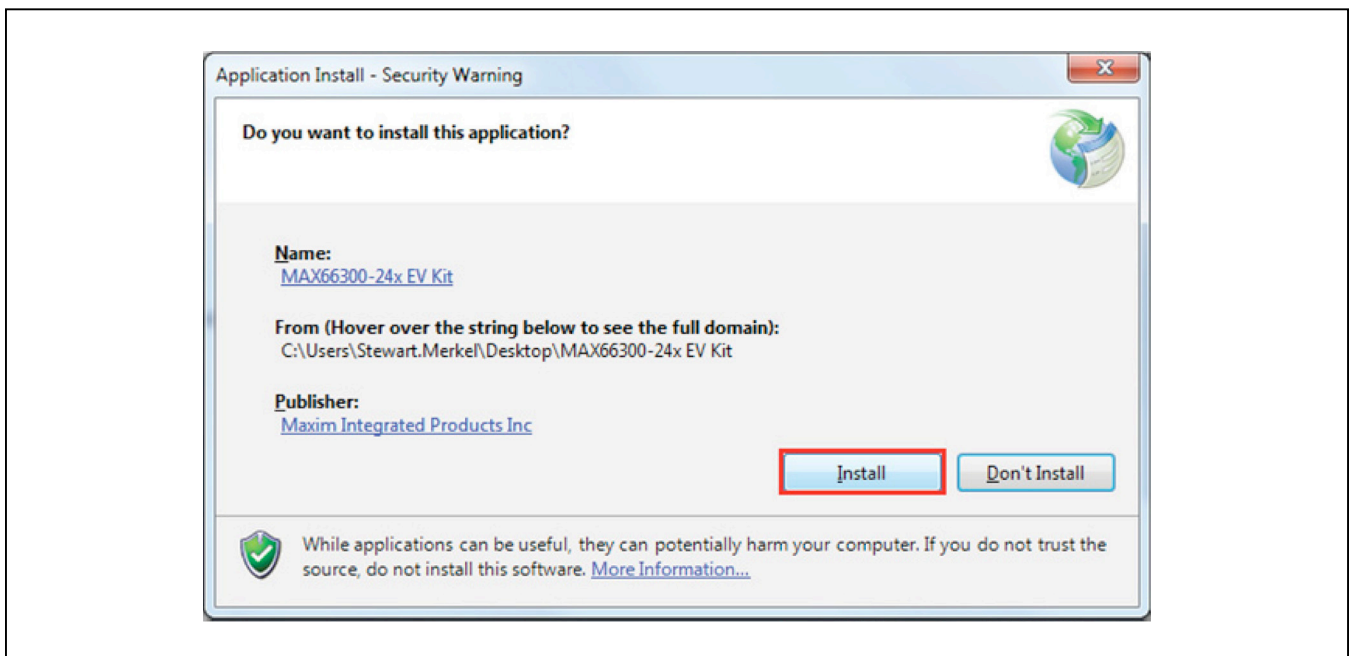

Figure 3. Application Install–Security Warning
- 7) Now, double-click the **Install** button as shown in Figure 3.